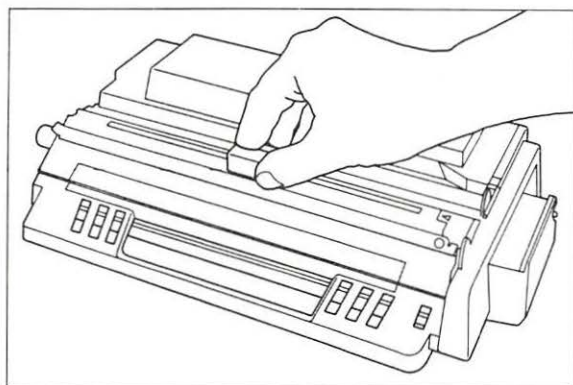

FIGURE 5-17: PRIMARY CORONA CLEANER SLOT
2. Insert the wire cleaner into the long slot of the toner cartridge (between the two shutters) and move it back and forth in the slot (Figure 5-17). The cleaner displaces the thin protective plastic sheet.